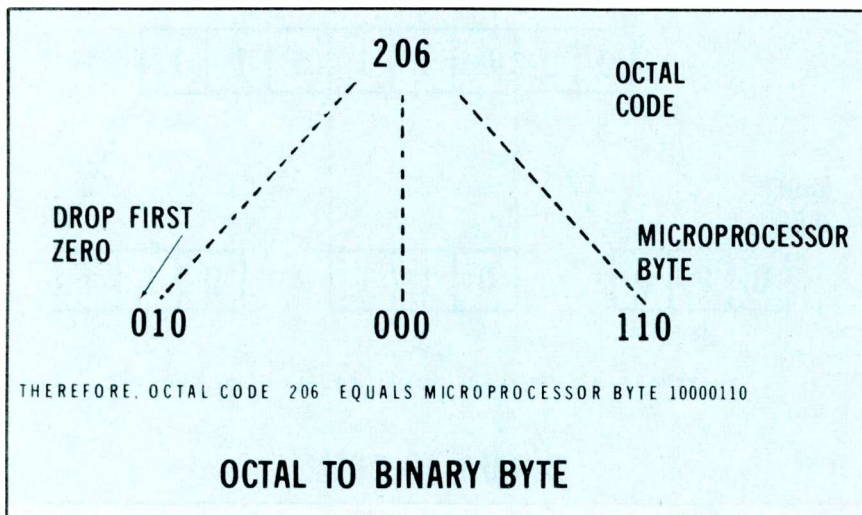

Figure 3 Conversion from octal instruction 206 to machine code 1000110 is illustrated here.
**Figure 3** Definite conditions are required before a varistor can produce dc voltage. The input signal must have pulse waveform. (A) The schematic is typical of shunt rectification, but the signal is horizontal-sweep pulses and a varistor is substituted for a diode. (B) The lower horizontal line is the average voltage of the waveform, and the upper one is the zero line. When the zero line is above the average line, the waveform will measure as a negative voltage. Signal of 275VPP produced -38V. (C) The same 275VPP pulse signal (top trace) was reduced to only 85VPP at the varistor when a varistor of insufficient resistance was used. Less than -1V was measured. (D) Another source of 540VPP pulses
known, it is easy to determine the required binary byte for the microprocessor. For example, the 6800 octal code for loading the contents of the memory into accumulator A is 206 (this code is provided by the manufacturer). Figure 3 shows the procedure for converting this octal code to the binary byte.